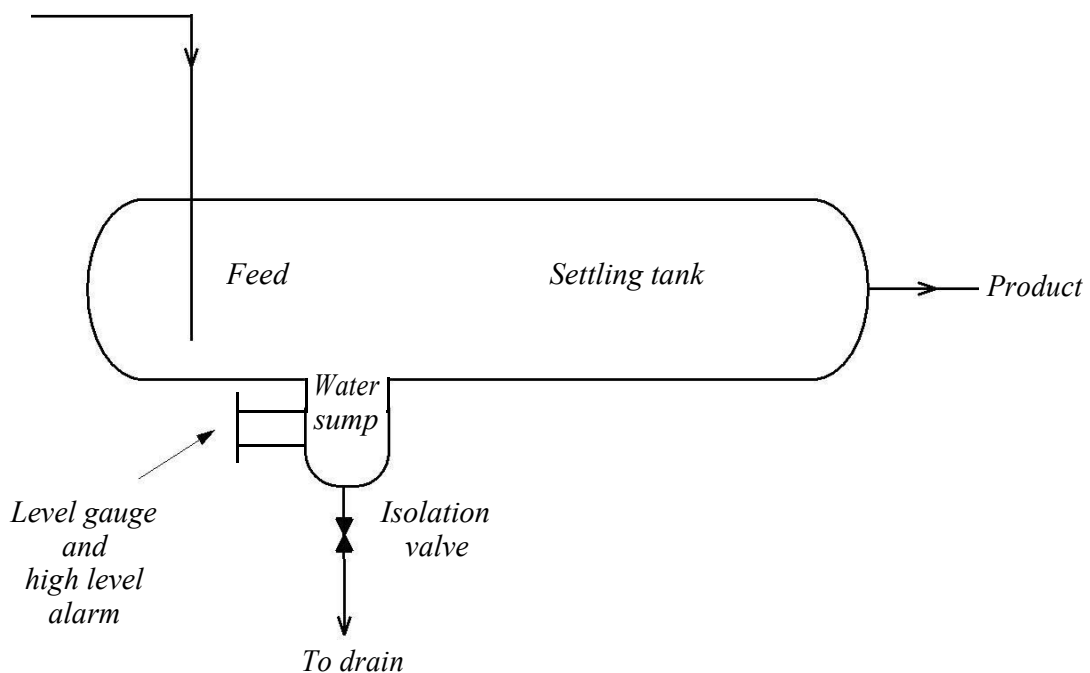

FIG. 1
- (d) FIGURE 1 shows an external intermediate vessel which receives a continuous mixture of hydrocarbon liquid and small variable amounts of water. The water must be separated by settlement into the sump to prevent contamination of a later hydrocarbon processing stage. The sump should be drained every 4 hours by an operator. The operation is facilitated by a sight glass and high level alarm. Under normal conditions the sump would fill in approximately 10 hours.